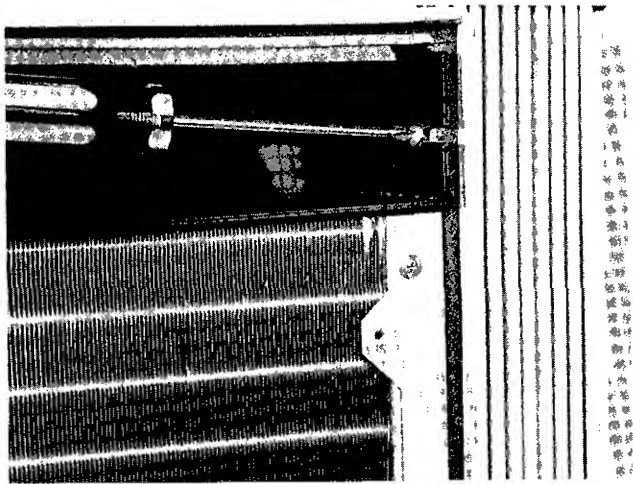

Fig 5 — Unlocking Chassis Security Lock Screw
- 4 **Chassis Security Lock Screw** — To slide chassis out of casing, security screw must first be loosened. Loosen screw and slide screw to unlock position (forward). When reinstalling chassis in casing, reverse procedure and tighten screw in lock position. See Fig. 5.